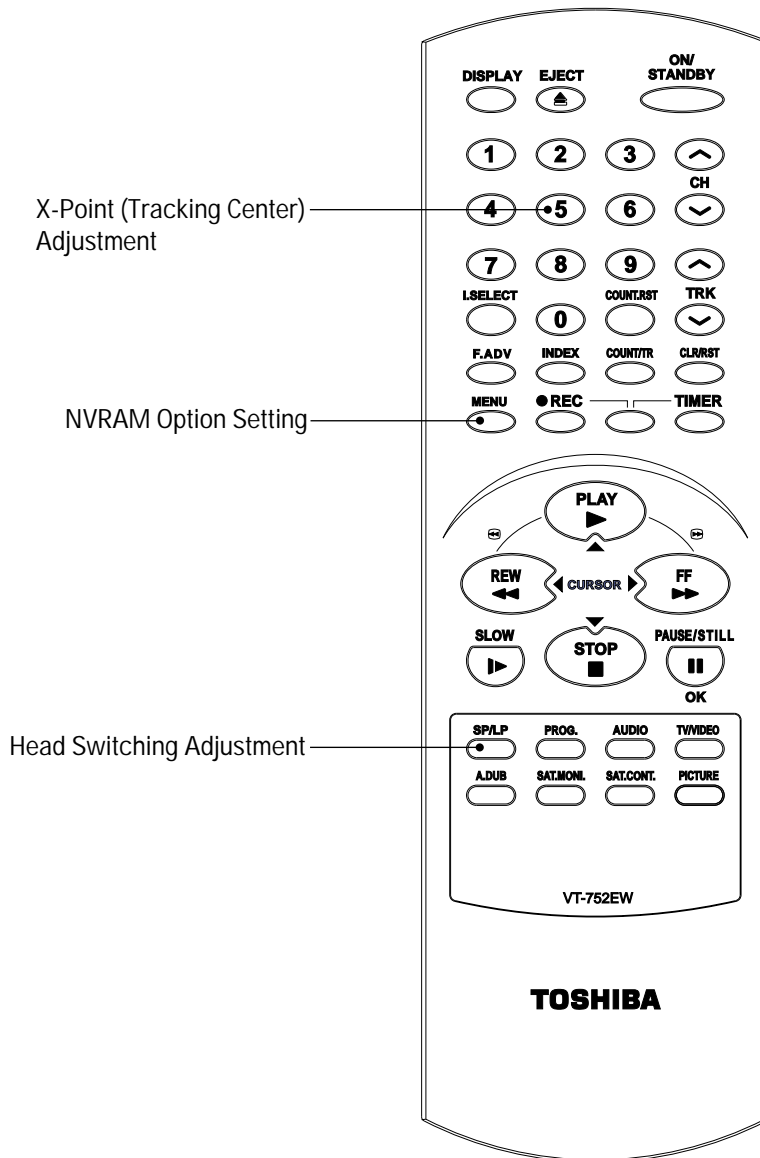

Fig. 5-1
- 3) Press the "SP/LP" button of remote control then adjustment is operated automatically. (See Fig. 5-1)